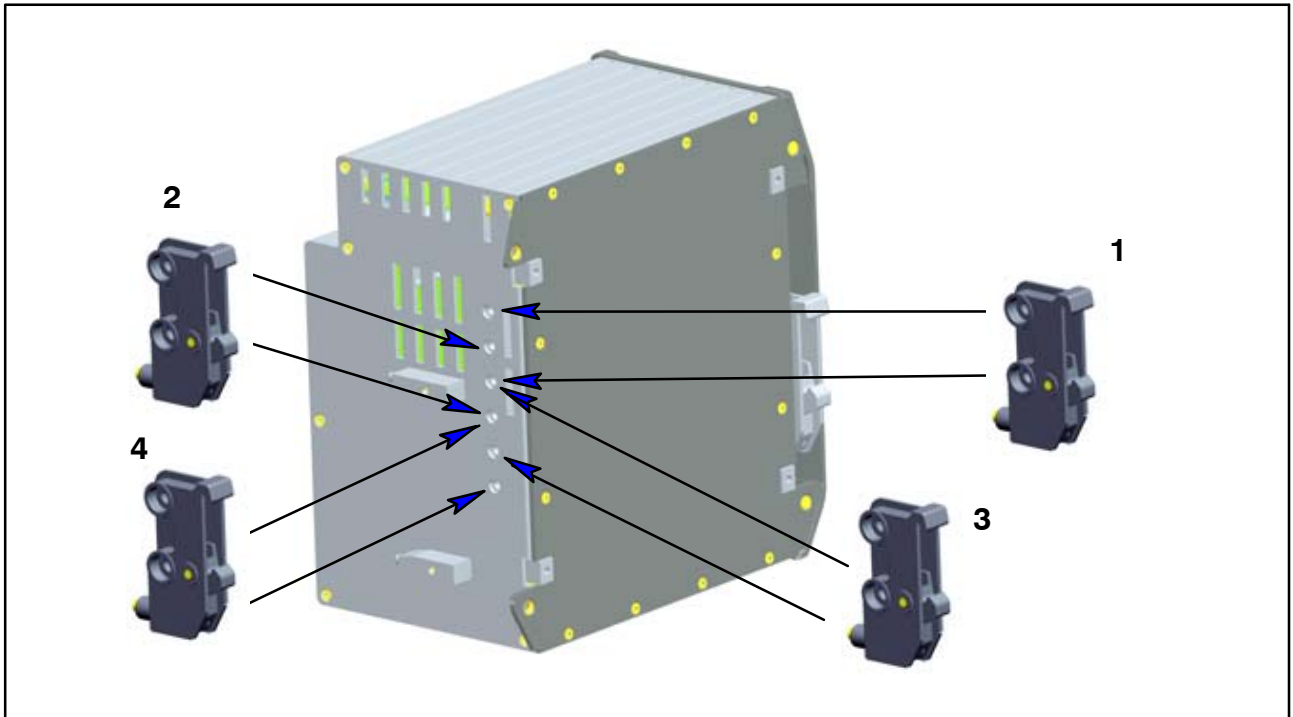

Fig. 6.2: Four positional options for support rail mounting
- Screw on the support rail mounting **(3)** (approx. 5 Nm), in a choice of four positions (two positions for the 7.5 mm support rail), see Fig. 6.2)
► Hook the PMX device into the DIN rail (4)